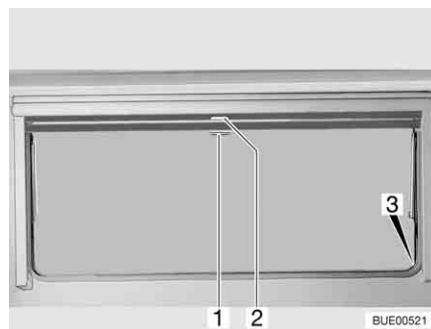

Fig. 81 Hinged window
- Pull blind at the handle (Fig. 81,2) downwards. If the blind is to be completely closed, it is suspended into the locking devices (Fig. 81,3) situated on both sides of the window frame.
- If the blind is completely closed: Press handle (Fig. 81,2) downwards and, at the same time, tilt it slightly inward. The blind can be taken out of the locking devices situated on both sides of the window frame.
- If the blind is in an intermediate position: Pull the handle (Fig. 81,2) slightly downwards until the locking device releases.
- Pull insect screen at the handle (Fig. 81,1) down and hang it into the locking devices (Fig. 81,3) situated on both sides of the window frame.
- Press handle (Fig. 81,1) downwards and, at the same time, tilt it slightly inward. The insect screen can be taken out of the locking devices situated on both sides of the window frame.